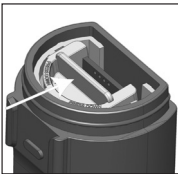

Fig. 2: Push to unlock
- 2. To remove the battery plate, push the center tab towards the front of the tester as shown in Figure 2. Once unlocked, remove the plate to access the batteries.